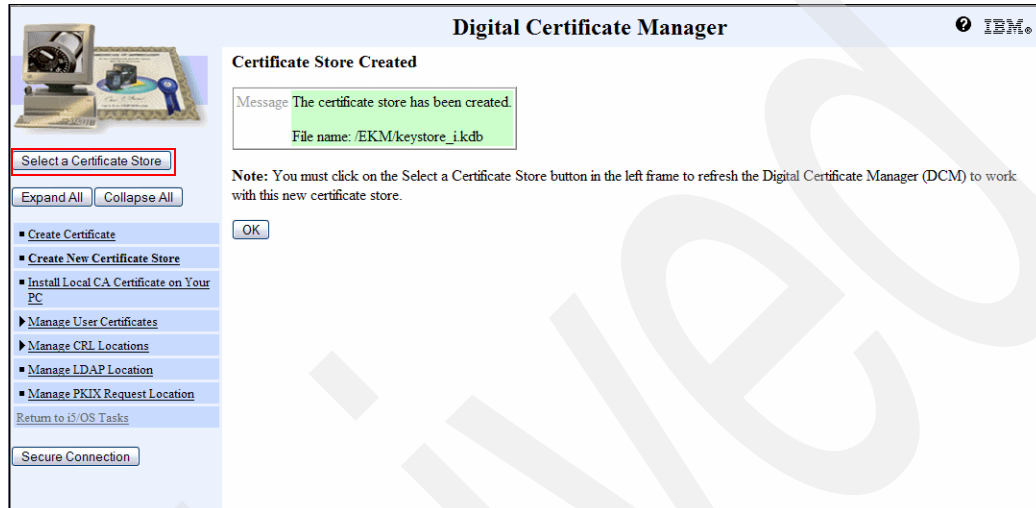

Figure 6-44 Certificate Store Created window
The Certificate Store Created window opens (Figure 6-44 on page 170). Your keystore is created successfully.
1. Choose **Select a Certificate Store** in the left panel of the DCM window (Figure 6-44).